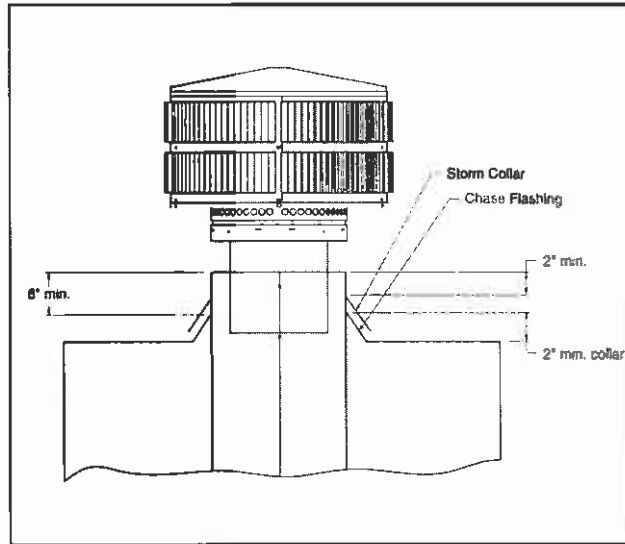

Figure 22 - Installing a TR344 Round Termination Cap
- a. Install the chimney sections up through the chase enclosure. When using a TR344 round termination cap, the uppermost top section of pipe must extend 6" above the top of the chase collar to allow installation of the storm collar and termination cap. See Figure 22.